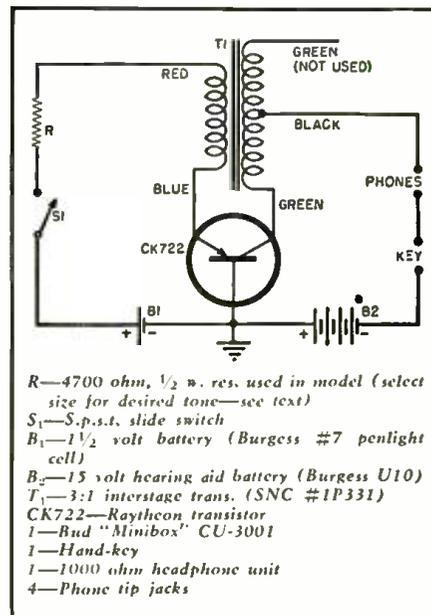

Fig. 3. Complete schematic of oscillator.
Almost any standard 1:3 interstage audio transformer should give satisfactory results for use as T_1 , although the builder may find it necessary to experiment somewhat with the lead connections. The author originally tried the entire secondary winding (the two green leads, Fig. 3), but found that better results were obtained when only half the winding was used.
Fig. 3. (A) Simplified schematic of cathode-follower rectifier. (B) 60-cycle waveform showing effect of cathode-follower bias. When bias is +100 volts, cathode "rides" at approximately +100 and conducts only during shaded part of cycle. (C) Regulation curves.
Fig. 3. Inside the 6"x9"x5" box. The Bakelite strip mounted on the choke provides a point for fastening choke to rear panel, further bracing the chassis for assured v.f.o. stability.